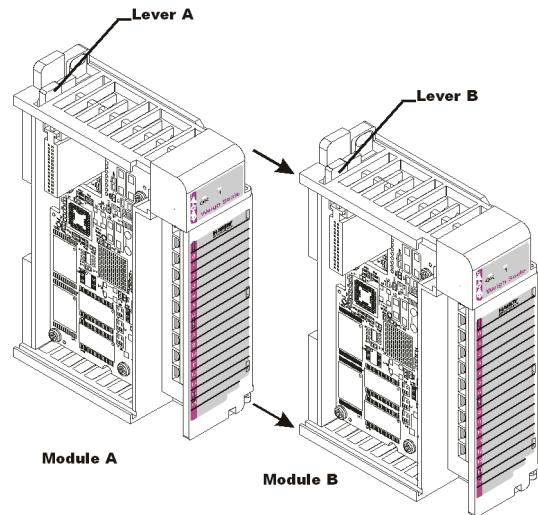

FIG. 3-1 POSITIONING THE MODULE FOR INSTALLATION
Step 1. Make sure that the module is oriented correctly for installation. (See Fig. 3-1)